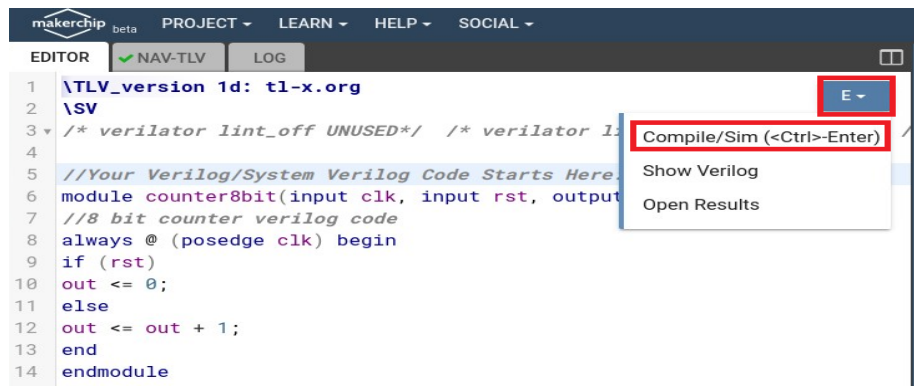
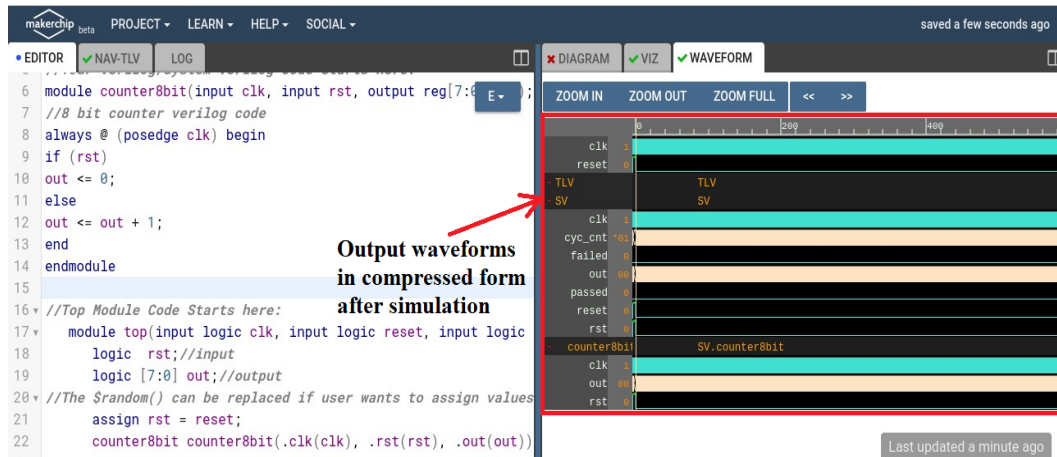
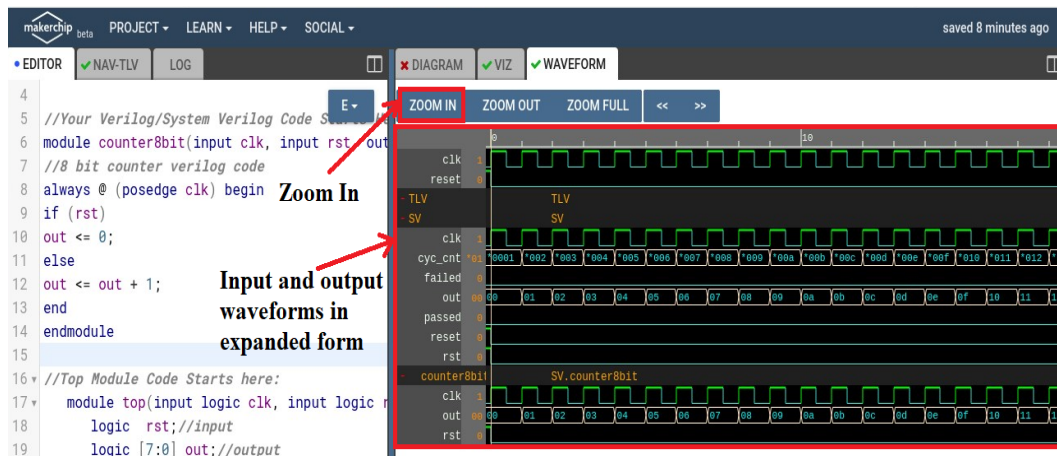

Figure 11.16: Compiling after removing lintoff errors
Figure 11.19: Output waveforms in compressed form of 8 bit Counter
Figure 11.20: Output waveforms in expanded form of 8 bit Counter
13. Next, click on the **Editor** tab in the editor as shown in Fig. 11.16, then click on **Compile/Sim** button to compile the verilog code.
15. Now click on the **Editor** tab and then click on **Compile/Sim** button in the editor as shown in Fig. 11.16, it will display the following waveform window as shown in Fig. 11.19. This means that the verilog code of 8 bit Counter is successfully
compiled. Kindly, note that in Fig. 11.19, inputs and output waveform are in the compressed form.
16. Fig. 11.20 shows the expanded view of inputs and output waveforms of 8 bit counter. The waveforms in Fig. 11.19 can be expanded by clicking on **Zoom In** button as shown in Fig. 11.20.